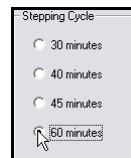

Fig. 3-8: **Stepping Cycle** area.
2. In the **Stepping Cycle** area, select the total duration of the frequency stepping table. (See Fig. 3-8.)